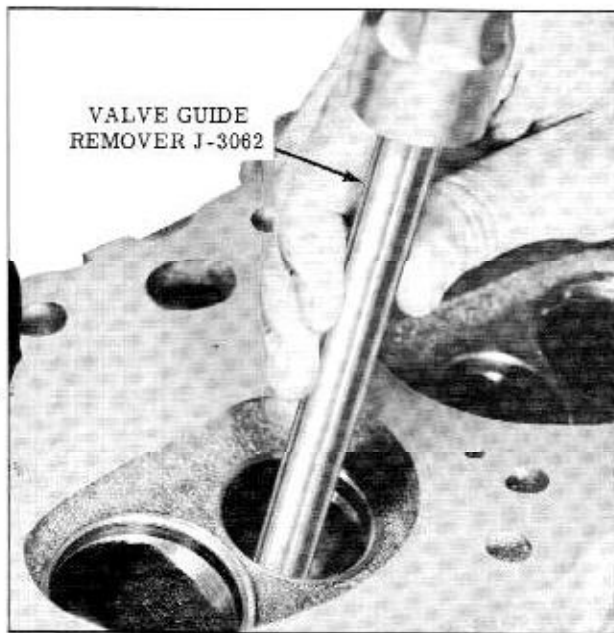

Fig. 8-9 Removing Valve Guide
7. If necessary to remove valve guides, support head on wood blocks then drive out with Valve Guide Remover Tool J-3062 (Fig. 8-9)